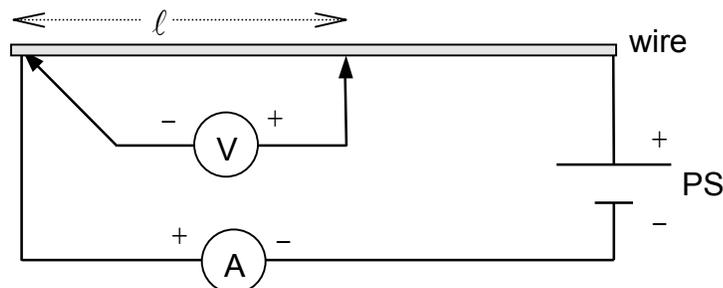

FIGURE 2
1. Connect the slide wire to the power supply as shown in Fig. 2. Adjust the power supply voltage so that a current of 0.5 Amps or less flows through the circuit.